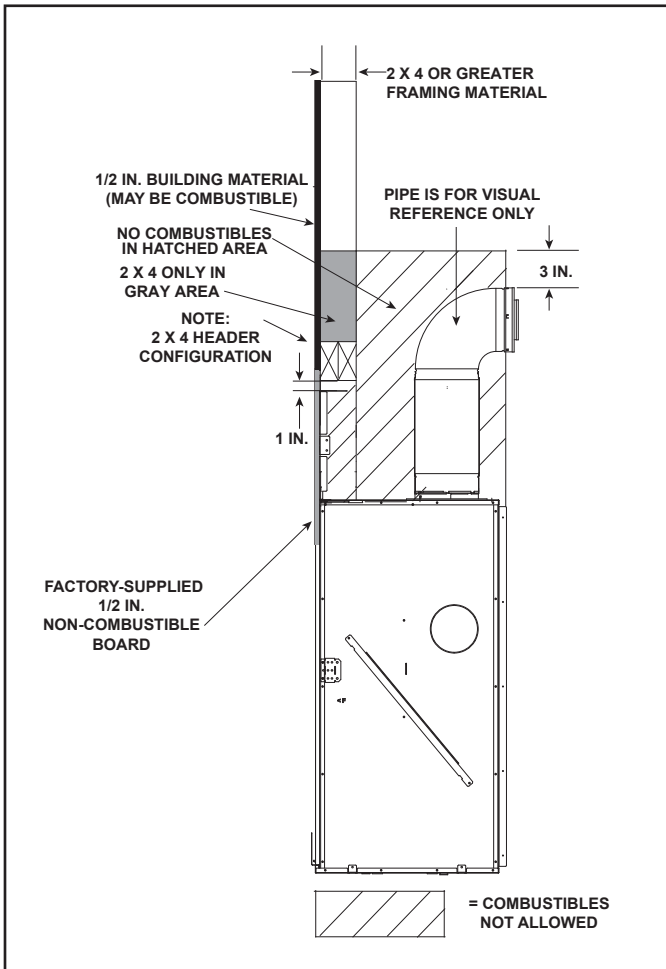

Figure 10.11 Non-Combustible Zone
- Slide left glass assembly into left side of appliance. Attach glass retainer with fasteners saved in Step 1. Do not overtighten. See Figure 10.11.